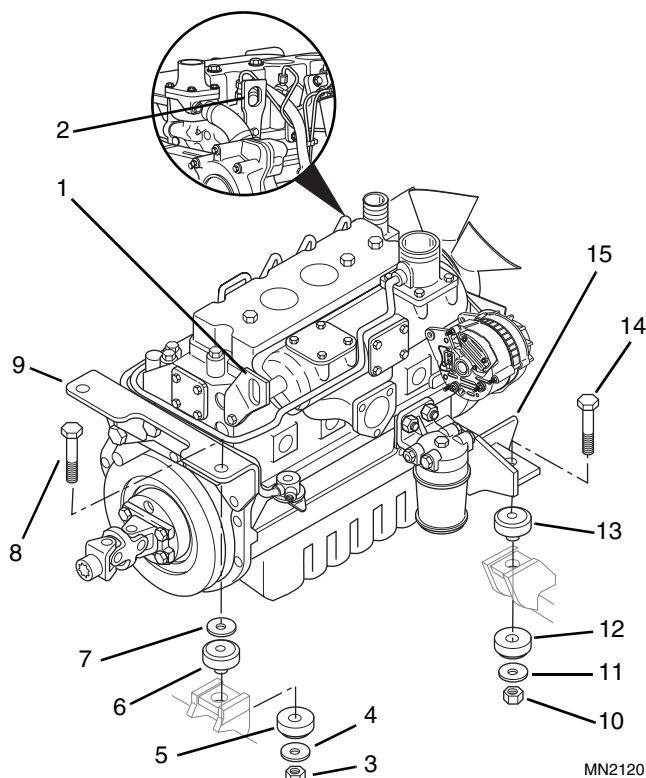

Figure 10-71 Engine Mounting
IMPORTANT: The engine must be lifted from the vehicle using an overhead or frame type hoist and lift sling or frame rated at a minimum capacity of 1100 lbs (500 kg). The lifting equipment used (Fig. 10-72, 4) **MUST** be connected to the front (Fig. 10-71, 1) and rear (2) engine lift eyes. Before lifting the engine, ensure that the lift eye mounting capscrews are torqued to 33 lb/ft (44 Nm). Inspect the lift eyes for damage. If any damage is noted, **DO NOT** lift the engine until the eye(s) are replaced.
45. Connect the lifting equipment (Fig. 10-72, 4) to the front (Fig. 10-71, 1) and rear (2) lift eyes, and remove all slack in the lift equipment to prevent the engine from unintended movement during removal of the engine mounting hardware.
46. Remove hex elastic locknut (Fig. 10-71, 3), rebound washer (4), bottom isolator (5), top isolator (6), flat washer (7) and capscrew (8) from the right and left side of the front engine mount (9).
47. Remove hex elastic locknut (Fig. 10-71, 10), rebound washer (11), bottom isolator (12), top isolator (13), and capscrew (14) from the right and left rear engine mount (15).